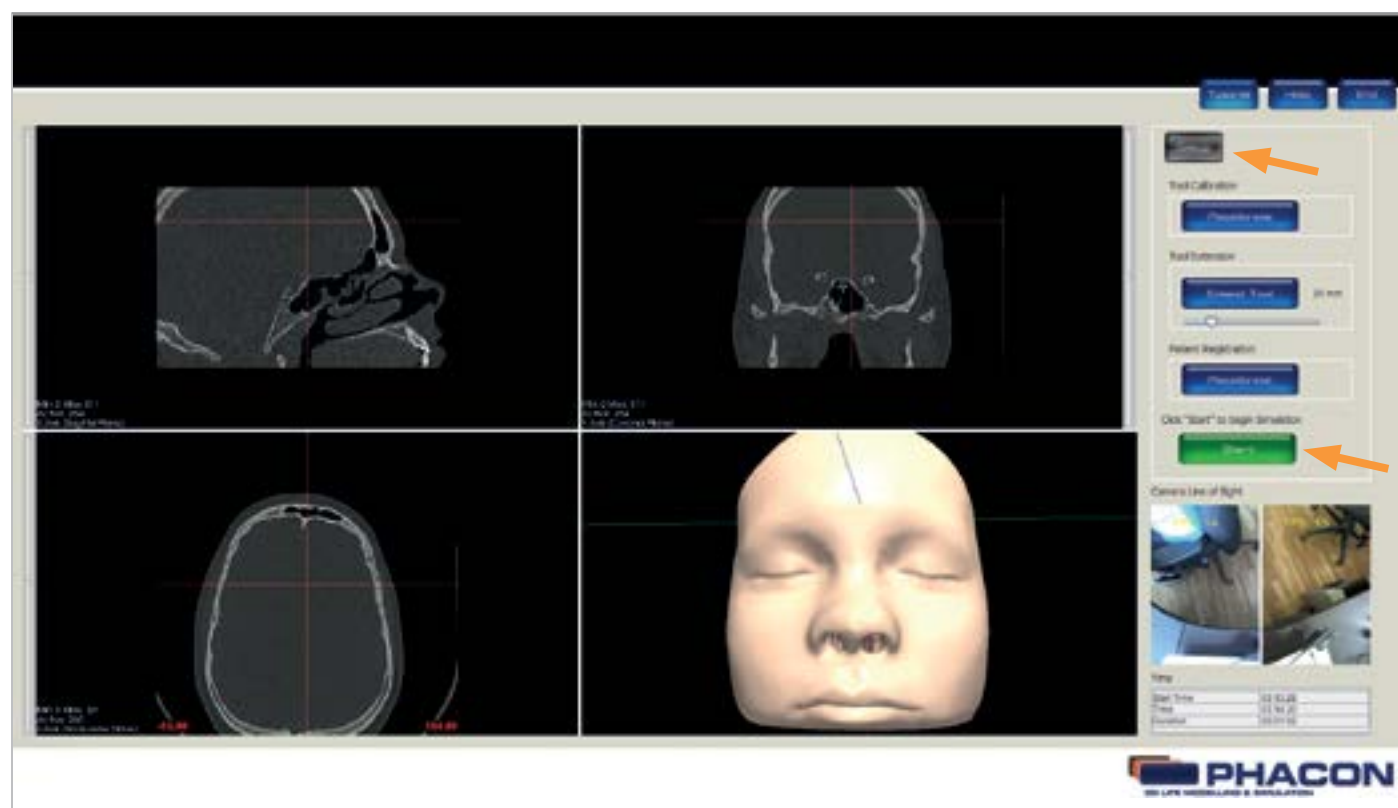

Fig.: 4
7. Click on the START button to begin simulation without performing calibration (Fig. 4).